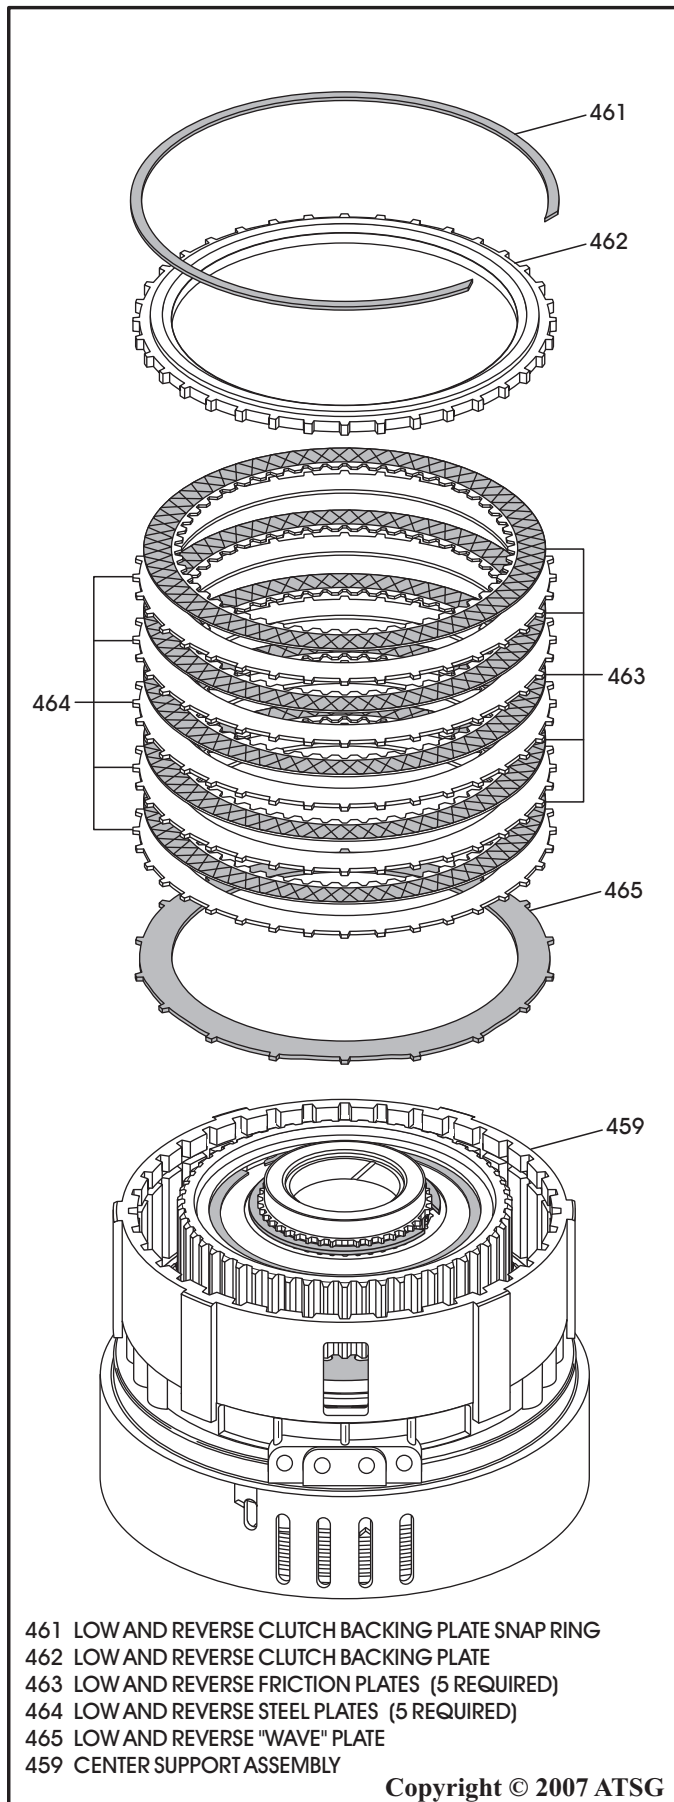

Figure 116
23. Install the low/reverse clutch "wave" plate, as shown in Figure 116.
24. Install the low/reverse clutch plates beginning with a steel plate and alternating with a friction plate until you have installed five of each, as shown in Figure 116.
25. Install the low/reverse clutch backing plate, as shown in Figure 116.
26. Install the low/reverse clutch backing plate snap ring, as shown in Figure 116.